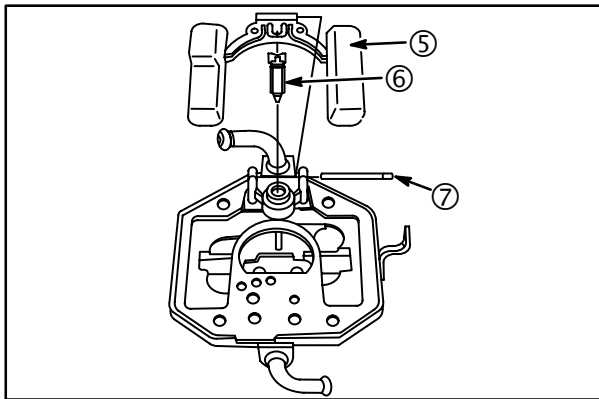

Fig. 99
3. Remove float (5) and fuel inlet needle (6), Fig. 99.
**NOTE:** Float hinge pin (7) is swaged on one end. Drive hinge pin out from side opposite swage.